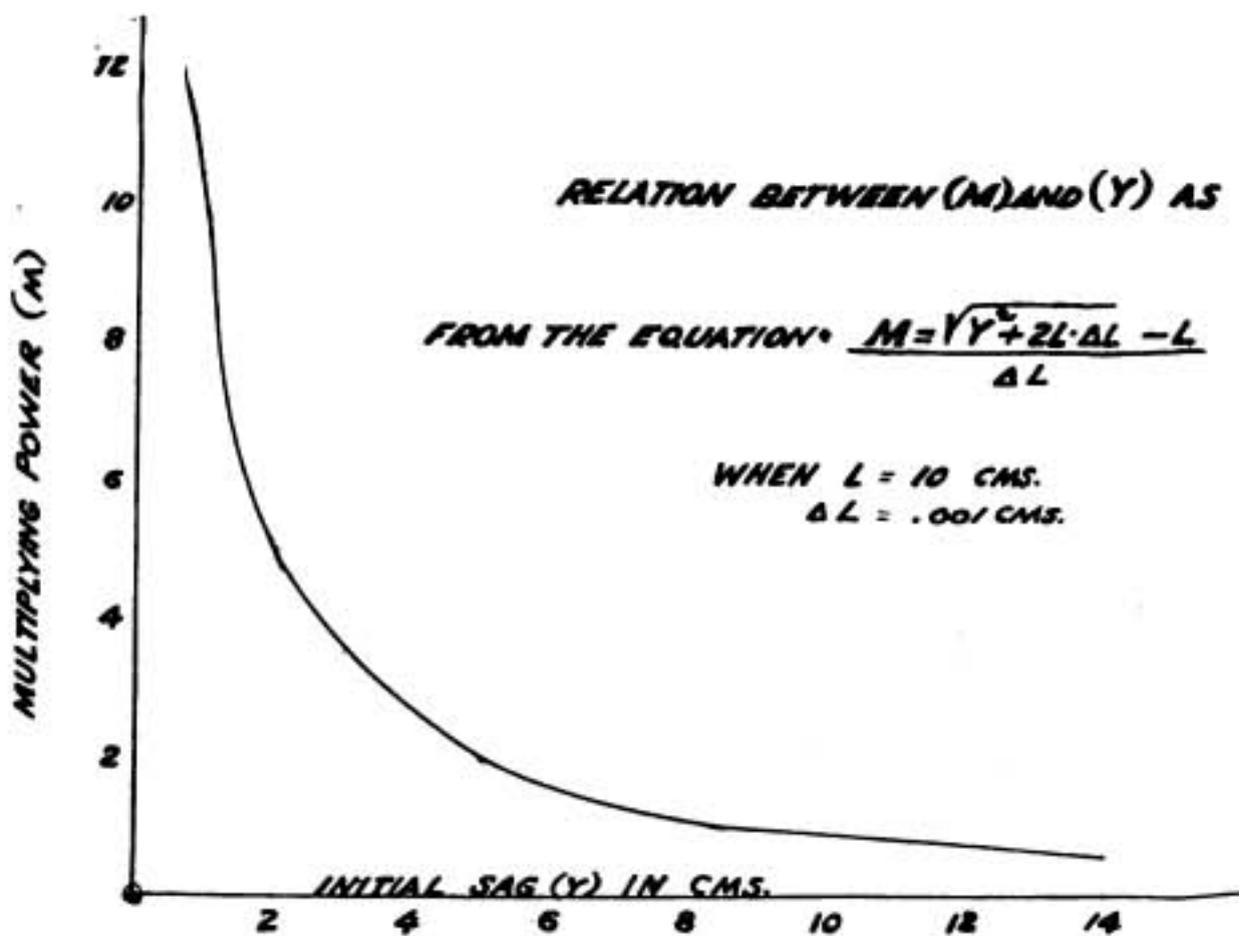

Fig. 2
The relation between (M) and (Y) is shown graphically in Fig. 2.